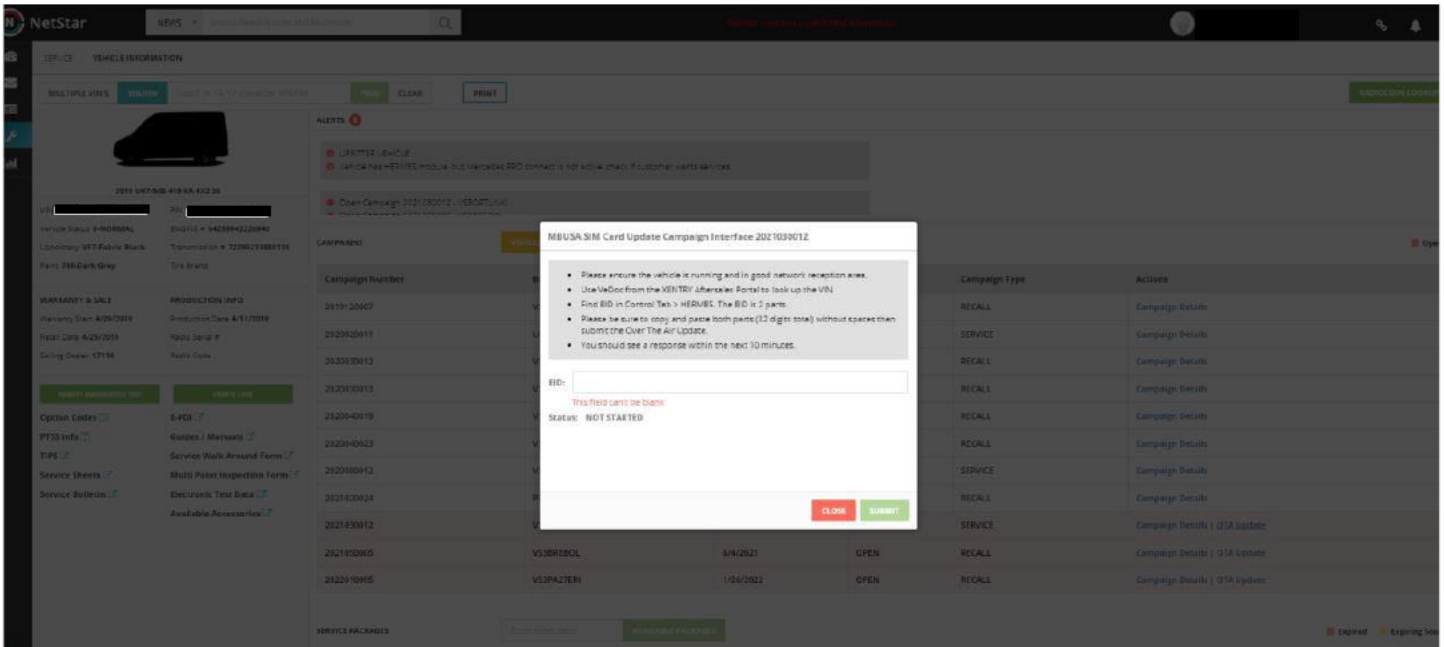

Figure 5
**i** A pop-up window requesting an EID number for the OTA update will appear (Figure 5).